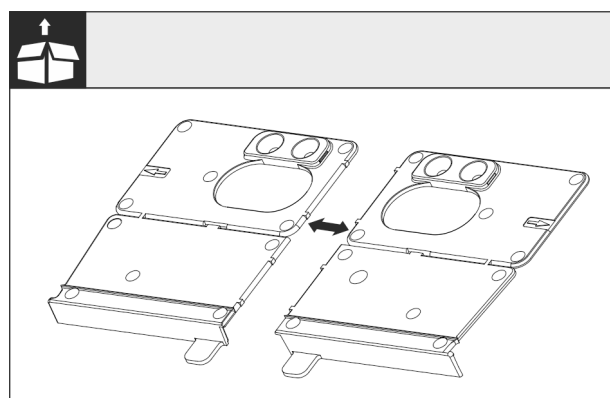

Fig. 27
► Separate the floor mounting bracket Fig. 27 (I) at the perforation.